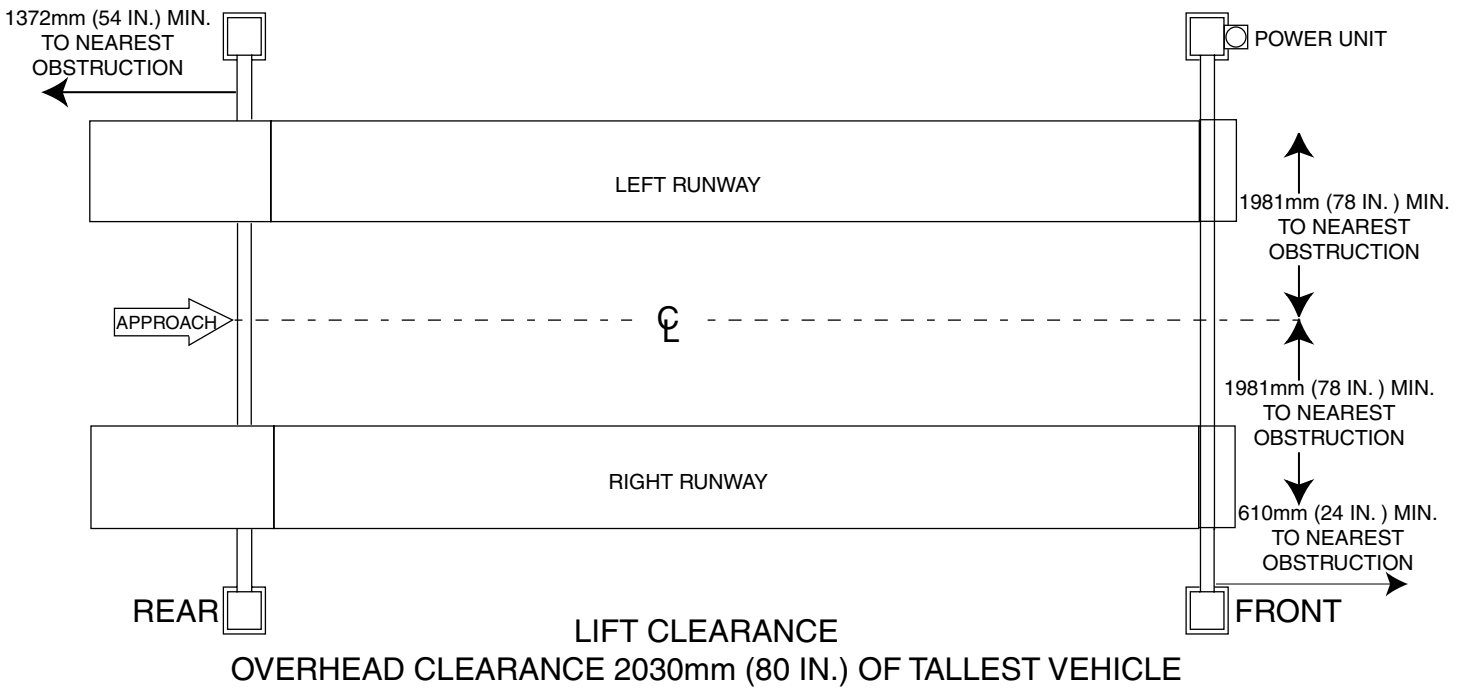
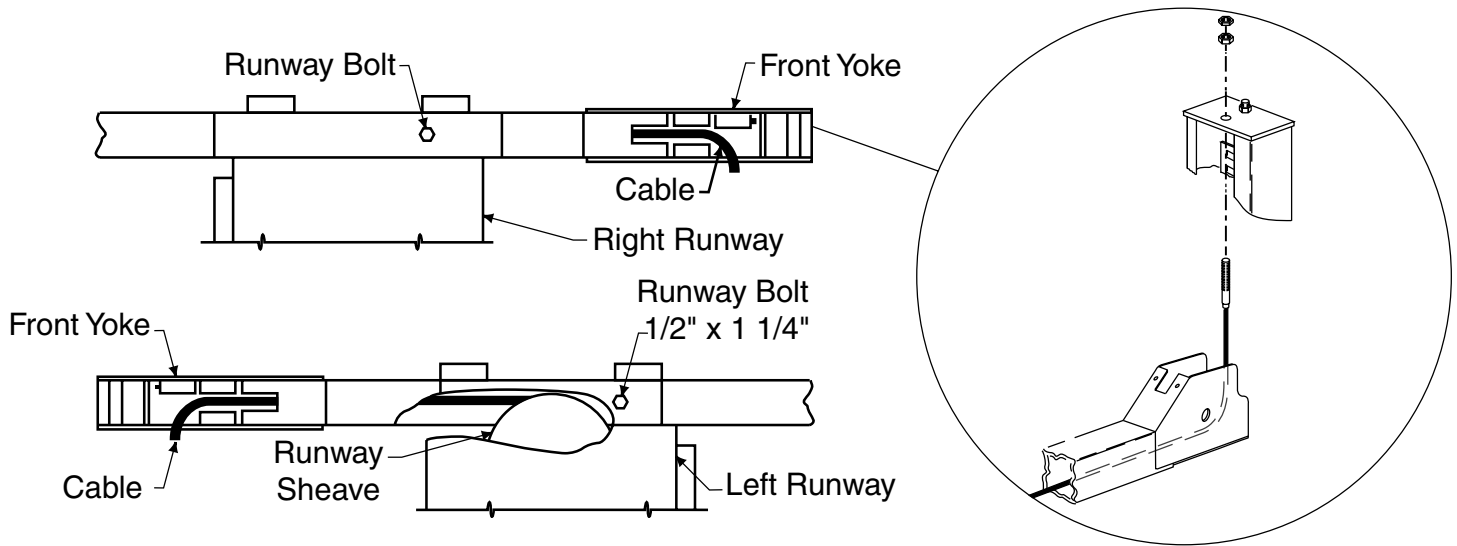

Fig. 1
Fig. 4
Use architect's plan when available to locate lift. Fig. 1 shows dimensions of a typical bay layout. Lift floor area should be level.
C. Position front and rear yokes at respective ends of runway, Fig. 1. The opening in the side of the yokes should be lined up with the cable sheaves in the runway ends. Feed cable ends through yoke openings, Fig. 4. **DO NOT ATTACH YOKES TO RUNWAY AT THIS TIME.**
the yoke tubes with the slots in the runway end plates. Bolt runway to the yoke using four $1\frac{1}{2}$ " x $1\frac{1}{4}$ " hex flange bolts, Fig. 4, page 3.